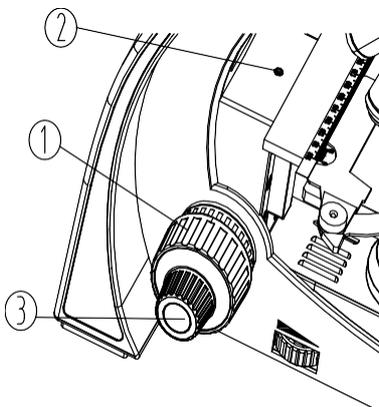

Fig.9
2. Observe the right eyepiece with the right eye. Rotate the coarse focusing knob ① until the image outline appears in the view field (See Fig.9).
3. Rotate the fine focusing knob ③ for clear details.
- ★ The lock screw ② can prevent the objective touching the slice when focusing.